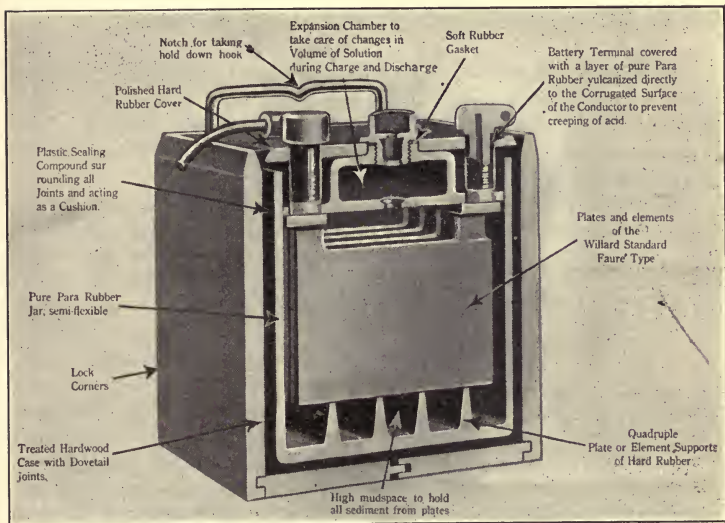

FIG. 132.—Section of Willard storage cell.
93. Storage Batteries.—Although the storage battery is to be considered in Chap. VIII on Starting and Lighting Systems, a brief description will be given here in order to bring out clearly its functions in battery ignition systems. A storage cell, Fig. 132, consists of two sets of metallic plates placed in a vessel containing a solution of sulphuric acid and water. In the positive group the plates are lead grids, the openings being packed with lead peroxide, characterized by its chocolate brown color. The plates of the negative group consist of finely divided sponge lead. These sets of plates are placed in the cell so that the positive and negative plates alternate and are separated by perforated sheets of hard rubber or specially treated wood. By passing direct current into the top of one of the plates, through the acid and water, and out the other plate,